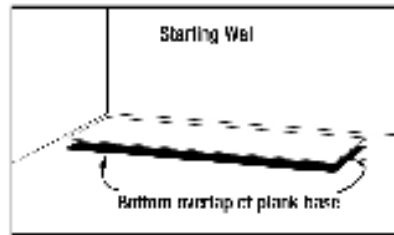

Fig. 2 Beginning the first row.
- Position the first plank so the grooved edge is facing you. Install the product from left to right in the room (Fig. 2). Occasionally, it may be necessary to install backwards. This may be done by sliding the grooves under the tongues and working them right to left, but this is more difficult.